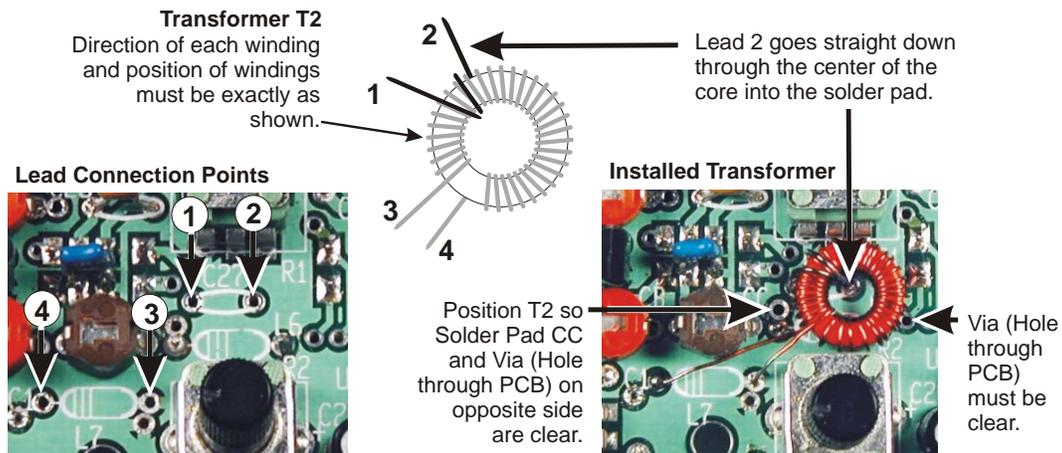

Figure 4. Winding and Installing Transformer T2.
"Sew" the long end of the wire through the hole in one of the T37-2 toroid cores (red) for a total of 33 turns exactly as shown in Figure 4. Be sure you wind the turns the direction shown in the figure. Count one turn for each time the wire passes through the center of the core. There are no half or quarter turns when winding a toroid. The turns should fill about 90% of the toroid core as shown in the figure.
The stripped end of the green wire is end 2 as shown in Figure 4. Position the green wire so the stripped end extends right up to the point where the wire passes into the center of the core, then wrap the long end of the wire around the toroid and through the center one more time to make two turns.
- Position T2 between potentiometers R1 and R2 as shown in Figure 4 with the leads passing through the pads for C27 and L7 as shown in Figure 4. Mark each lead where it enters the pad. Use a marker or place a slight bend in the wire at that point.
- Replace T2 on the PCB, drawing the leads through the proper solder pads as shown in Figure 4. Position T2 exactly as shown. Solder pad CC on one side of T2 and the hole through the circuit via on the other side of T2 must be clear. Be sure a small segment of tinned wire is visible above the solder pad on the toroid side of the PCB on each lead. If not, strip a little more enamel off of that lead before proceeding.